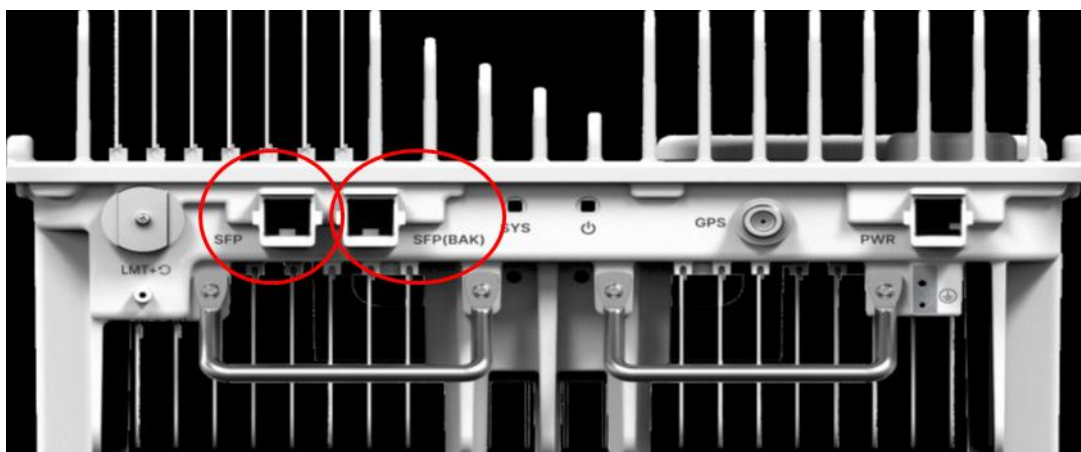

Figure 2: VectaStar NR AP External Ports
The AP supports two 10Gbps capable ethernet ports for transferring user data to the network using an SFP+ format to support Lucent Connector (LC) Single Mode (SM) fibre cable connections to the Cell Site Router (CSR). On the AP these are marked as 'SFP' and 'SFP(BAK)' shown in Figure 2: VectaStar NR AP External Ports.